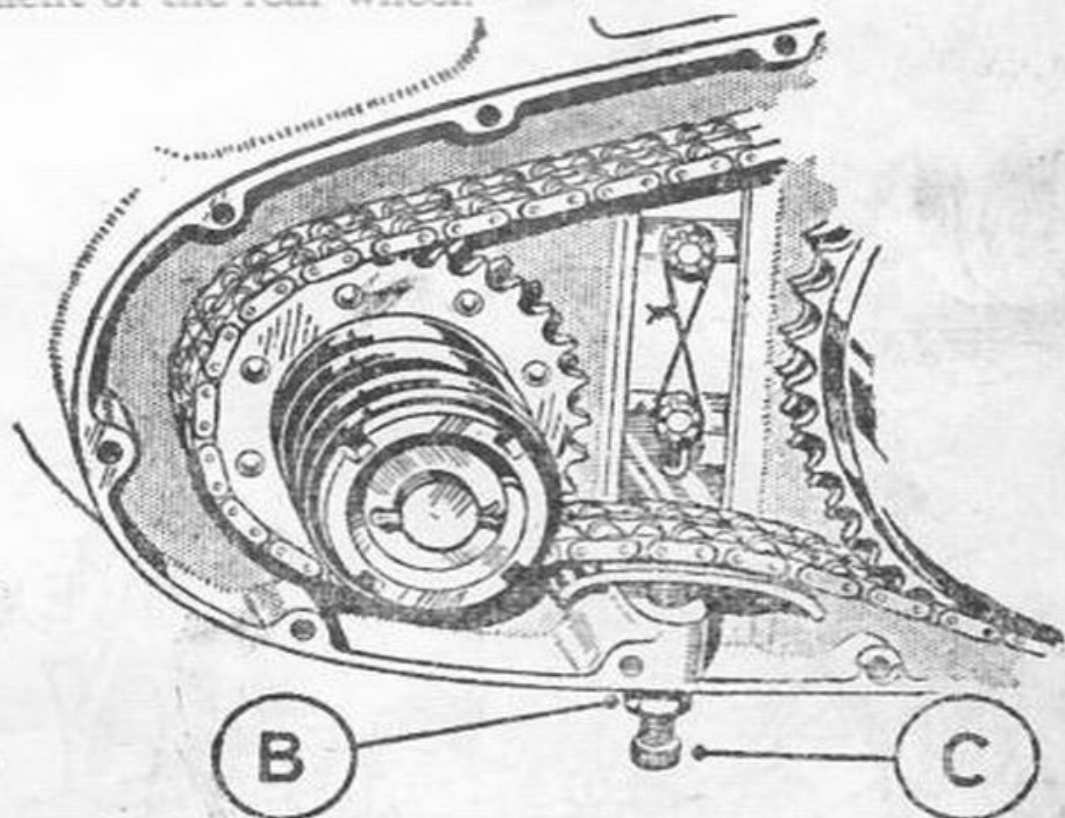

Fig. 15. Primary Chain Adjustment
*Slacken locknut B (Fig. 6 or Fig. 15).*
*To reduce the chain tension, screw the adjuster C downwards and apply pressure on the kickstarter pedal.* By this means, the tensioning 'slipper' will move down and slacken the chain. This is illustrated in Fig. 15.